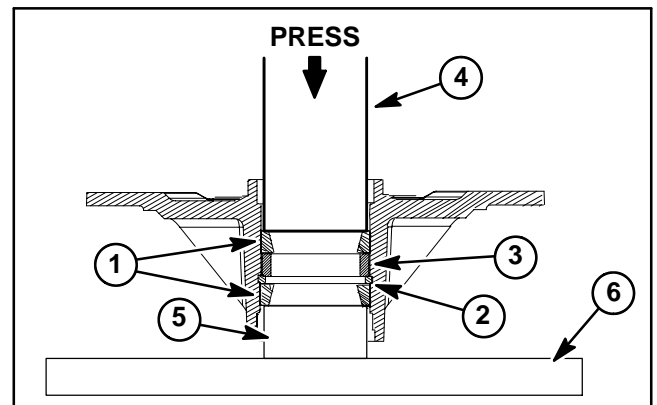

Figure 18
3. Using an arbor press, push the bearing cups into the top and bottom of the spindle housing. The top bearing cup must contact the outer bearing spacer previously installed, and the bottom bearing cup must contact the snap ring. Make sure that the assembly is correct by supporting the first bearing cup and pressing the second cup against it (Fig 18).